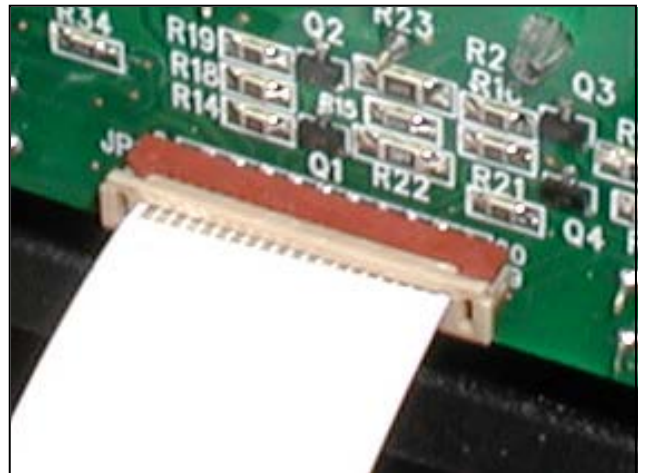

Figure 3-129. Loose ribbon cable example
2. Inspect both sides of the Ribbon Cable and the Cable itself; look for exposed metal contacts, cuts or sharp bends (Figure 3-129). Also ensure both ends of the cable are completely seating in the cable receptacles.